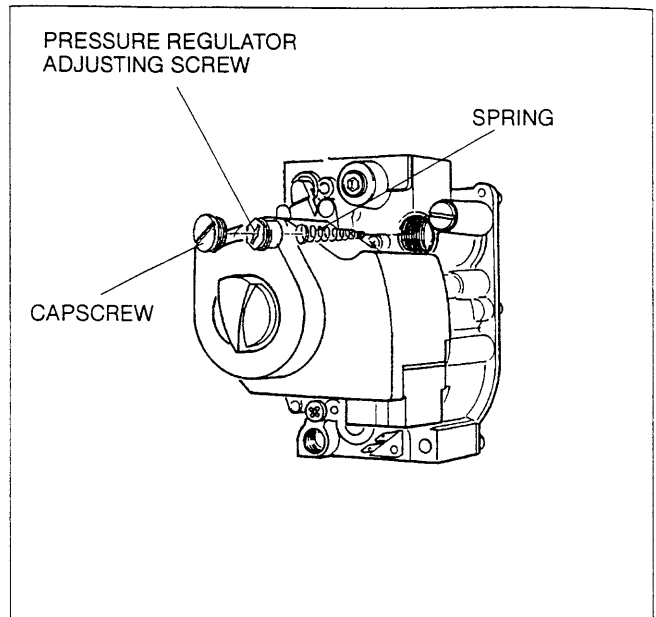

Fig.4
5. Remove the pressure regulator capscrew from the gas control, fig.4.
6. Remove the pressure regulator adjusting screw, fig.4.
7. Remove the stainless steel spring, fig.4.
8. Install the red spring contained in the Honeywell LP gas conversion kit into the gas control, fig.4.
9. Install the new pressure regulator adjusting screw. Install the adjusting screw flush with top of regulator. Turn six (6) complete turns clockwise . This will supply a preliminary pressure of approximately 10.0 inches water column. The setting needs to be checked with a manometer after conversion of the manifold is completed.